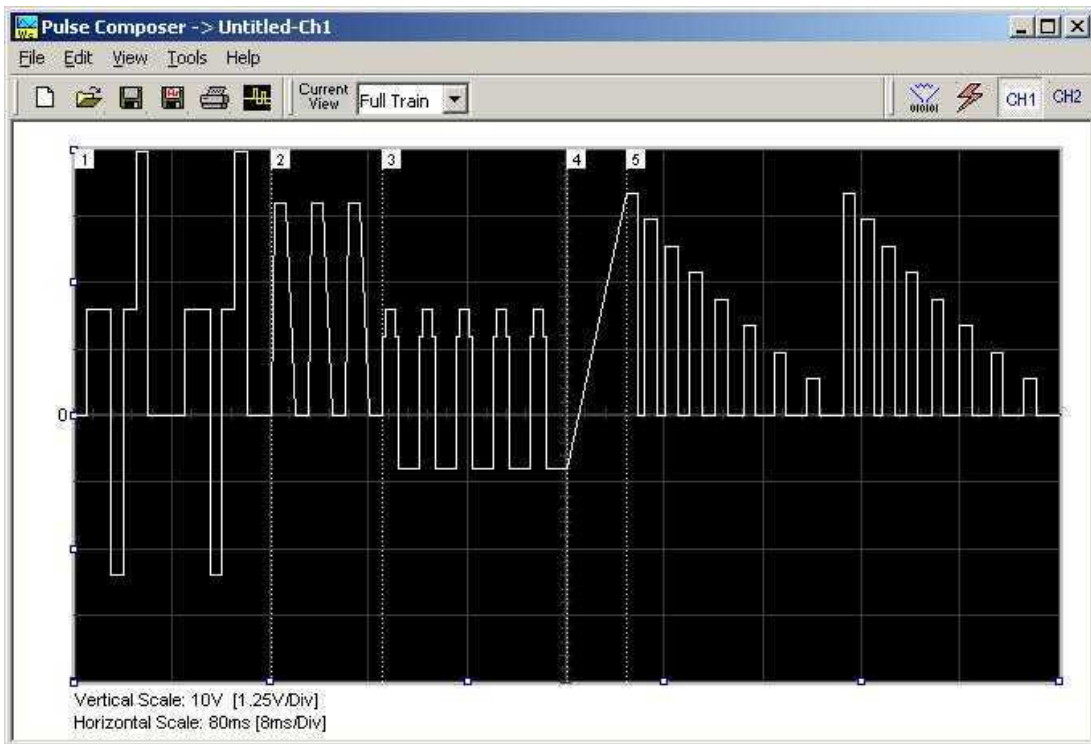
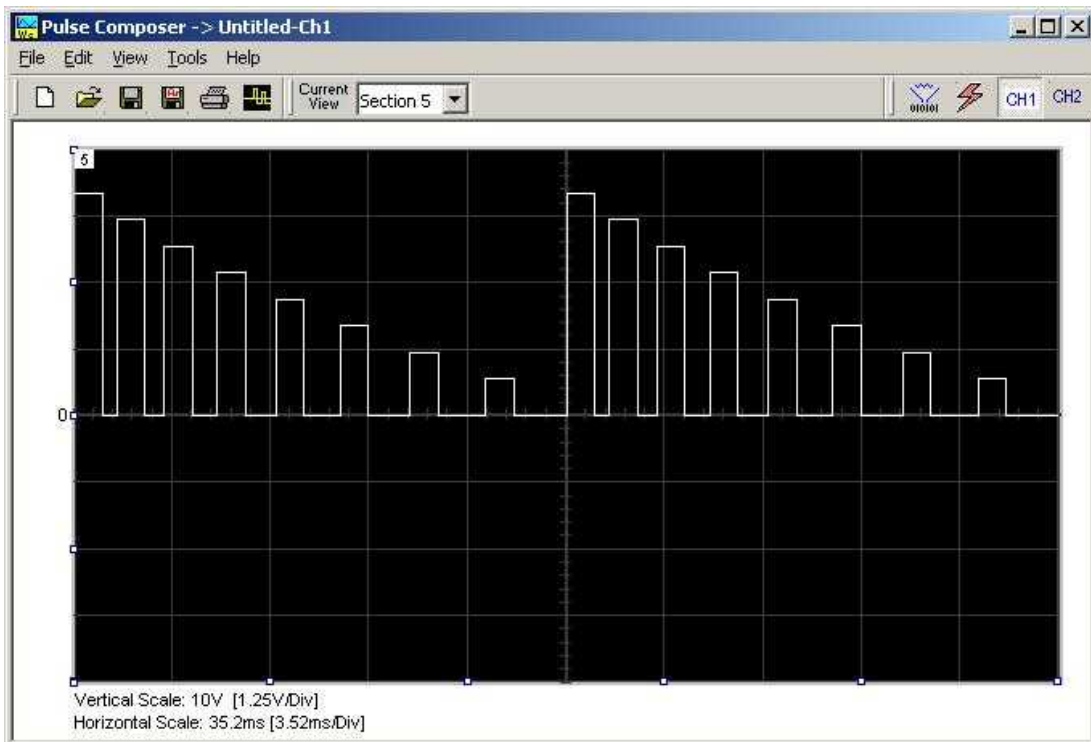
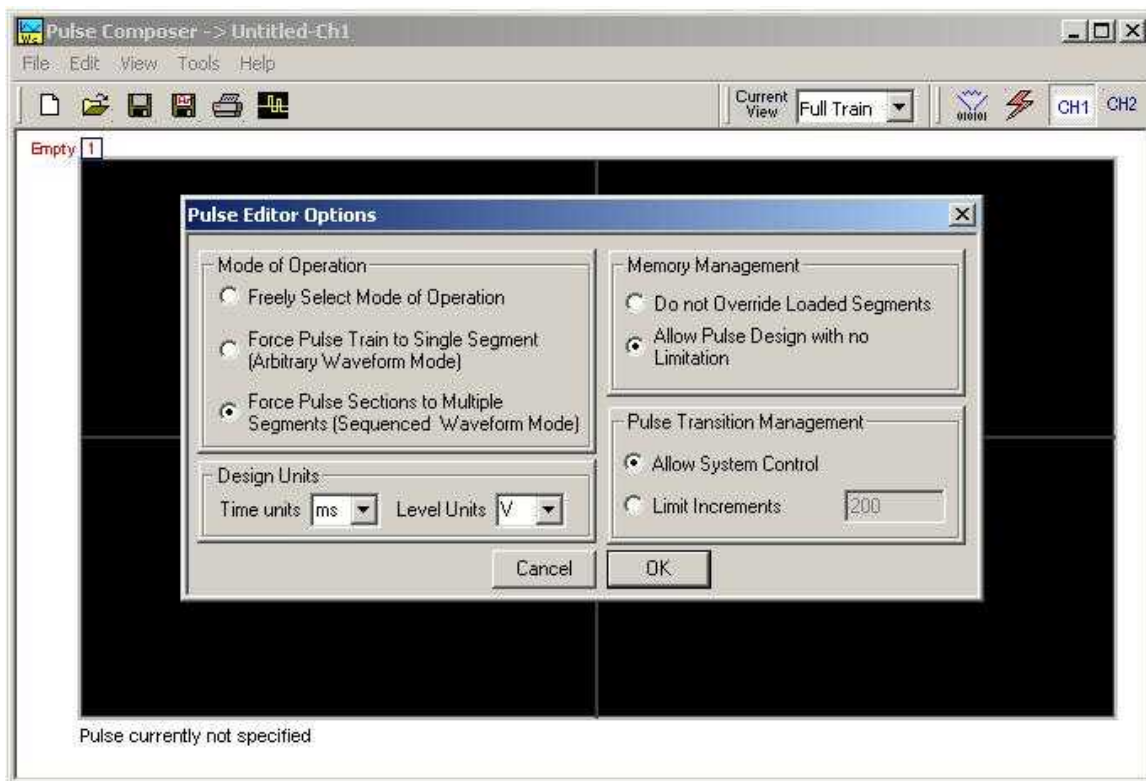

Figure 3-43, Complete Pulse Train Design
Figure 3-44, Section 5 of the Pulse Train Design
Figure 3-45, Selecting Pulse Editor Options
Pulse train is constructed from 1 or more sections. If the pulse is simple, it can be created using one section only. For more complex pulse train, the train can be divided to smaller sections and each section designed separately for simplicity. Figure 3-43 shows a complex pulse train which was made from five simpler sections and Figure 3-44 shows the design of the fifth section only of the pulse train.
Now that we somewhat understand the terms we use for the pulse design, we start with an example how to design the pulse train as shown in Figure 3-43. If you already have some pulses shown on your pulse composer screen, click on New to start from a fresh page. Another step before you design your pulse train is to set the design parameters in the options menu that will determine the way that the pulse will be distributed in your waveform memory. Click on View→Options and refer to Figure 3-45 throughout the following description.
As shown in Figure 3-45, the pulse editor option dialog box is divided to functional groups: Mode of operation, Design Units, Memory Management and Pulse Transition Management. These groups are described below.
Before you start entering values to this section, note that there are linear transitions required for this section. Therefore, select the Time/Level Points option in the Pulse Train Design Format. You are now ready to start programming values. In case you made a mistake and want to switch design formats after you have already typed in some values, the Pulse Editor will show an error alerting you that design format can only be changed for empty section. In this case, the only way to recover is to delete all entries and start from an empty index list. Type the section entries as shown in Figure 3-44.
**Pulse Example, Section 3** The second pulse section is complete. We are ready now to start building the third section of the pulse as shown in Figure 3-44. Point and click on the Edit command and select the Append Section option. A new section number will appear but it will show empty next to the section identifier.
The third pulse section is complete. We are ready now to start building the fourth section of the pulse as shown in Figure 3-44. Point and click on the Edit command and select the Append Section option. A new section number will appear and will show empty next to the section identifier.
The fourth pulse section is complete. We are ready now to start building the fifth and final section of the pulse as shown in Figure 3-44. Point and click on the Edit command and select the Append Section option. A new section number will appear and will show empty next to the section identifier.